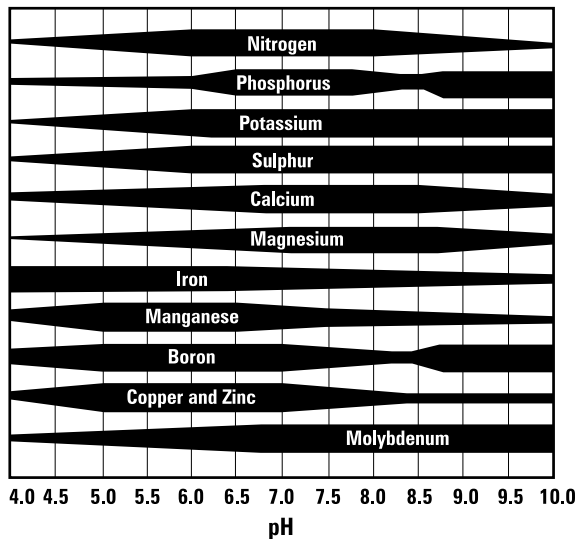

Figure 2: Nutrient availability as affected by soil pH
- Some micronutrients may be available in toxic amounts (see Figure 2).